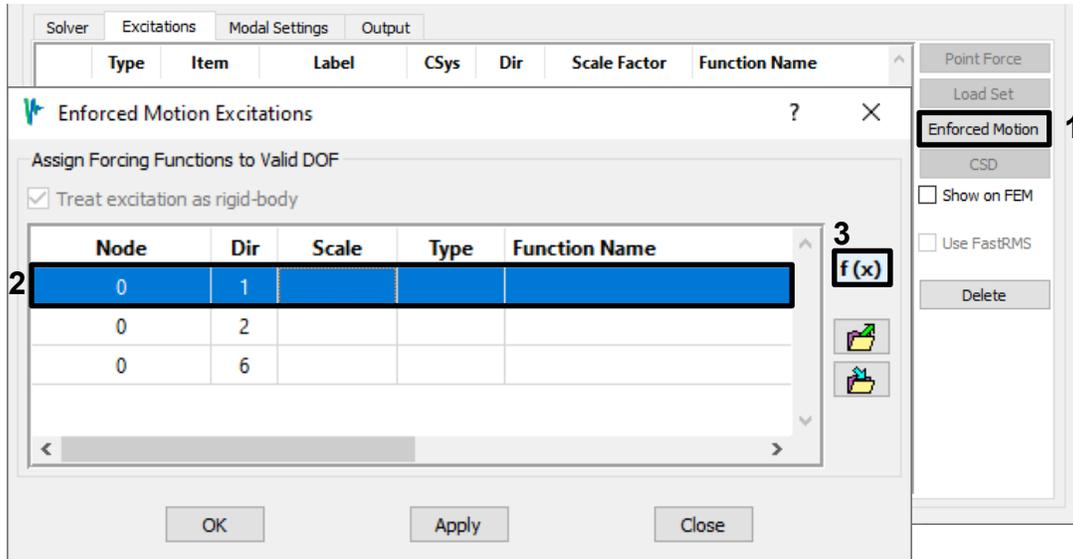

Figure 4-76. Assign an enforced motion function to direction 1.
- Response spectra are applied as enforced motions, so go to the *Excitations* tab and bring up the *Enforced Motion Excitations* dialog (Figure 4-76). Note that no motion out of the XY plane is offered; those degrees of freedom were removed from the model, so no modes have any effective mass in those directions. Select the X direction (direction 1) and click the  $f(x)$  button to bring up the Function Manager.